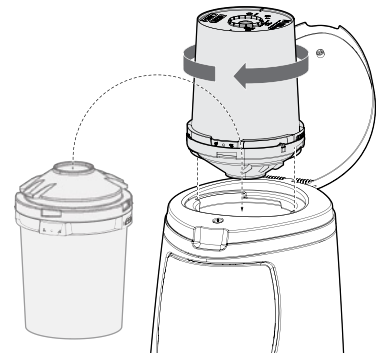

Figure 11. Bucket Funnel Installation
5. In one smooth motion, invert the bucket into the hopper opening while aligning the tabs of the bucket funnel into the slots of the hopper opening. See Figure 11.